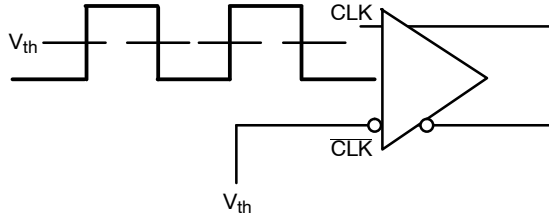

Figure 4. Single-Ended Interconnect V_{th} Reference Voltage
HCSL OUTPUTS (Figure 4)
- V_{th} is applied to the complementary input when operating in single ended mode per Figure 4.